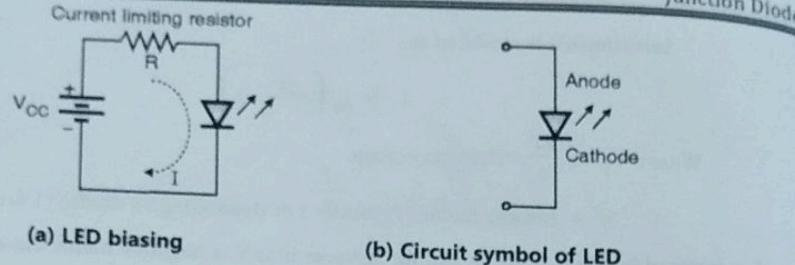

Fig. 2.5.1
- An LED emits light when electrical energy is applied to it. LED is a two-terminal device. The terminals are named as anode (A) and the other as cathode (K).
- For proper operation, it is necessary to forward bias the LED as shown in Fig. 2.5.1(a) and the symbol of LED is shown in Fig. 2.5.1(b). This shows that the symbol is same as that of a p-n junction diode with two arrows indicating that it emits light.